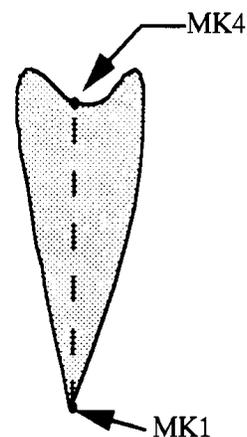

Figure 4-24
3. Enter a Mk1 at the base (the point) of the petal. Refer to the illustration of the single petal in Figure 4-24. This Mk1 is the starting point for the digitizing and sets the first point of reference for the digitized size and orientation for the stored symbol.